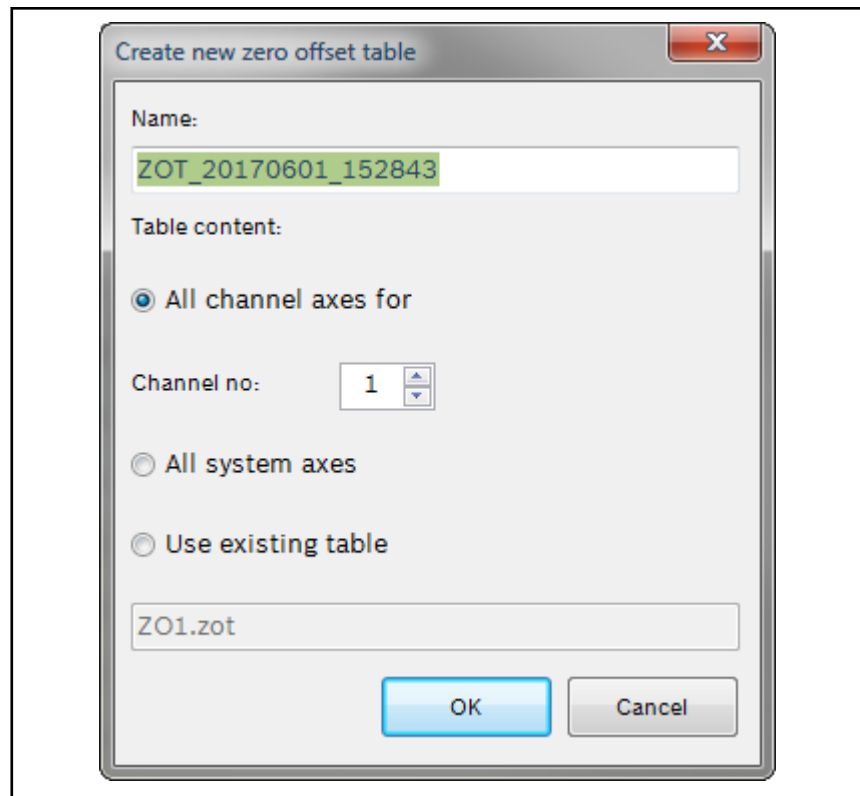

Fig. 7-39: Dialog to create a new zero offset table
A dialog (see fig. 7-39 "Dialog to create a new zero offset table" on page 192) opens to create a new zero offset table (continue with point 3).
A dialog opens to create a new zero offset table (see fig. 7-39 "Dialog to create a new zero offset table" on page 192).
1. Open the **New** dialog (see fig. 7-39 "Dialog to create a new zero offset table" on page 192) as described above.